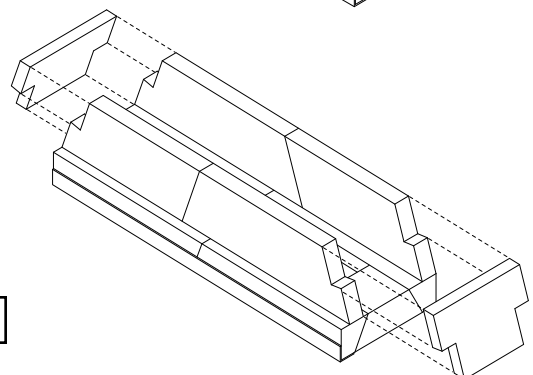

FIGURE 38
**Step 15:** Fit the top sloping smoke dome side wall components, part 34, in place between the front and back smoke dome arrangements at each end of the smoke dome (Figure 38).